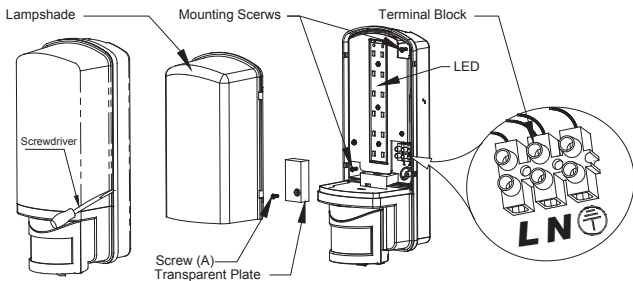

Fig.2 Mounting and Wiring to Terminal
To install the bulkhead light, please refer to Fig.2.
3. Remove the **Lampshade** using a **screwdriver**, see fig 2
4. Unscrew the **Screw (A)** and remove the **Transparent Plate**.
6. Connect the main power wires (H05RN-F 3G 1.0mm²) to the **Terminal Block** (noting the correct terminals in fig .2), the **Cable** must pass through the **Wiring Rubber Gasket**.